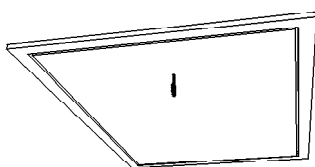

fig. 14
14. Fix a suitable architrave a round the lid leaving a 2-3mm gap or fit "J" channel for flush finish (figure 14).